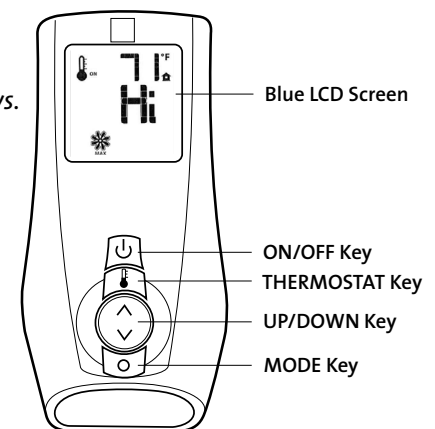

Figure 15.1. Remote transmitter display data.
1. Press the Controls Access Door to release its magnetic catch and swing the panel down. Switch the Burner to OFF. See fig. 15.1, page 31.